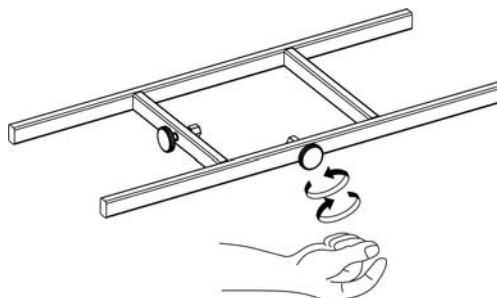

Figure 8
7. Tighten the threaded knobs found on the lp support frame (Figure 8) so that the LP tank cannot move from side to side. Do not remove the plastic cap from the end of threaded section.